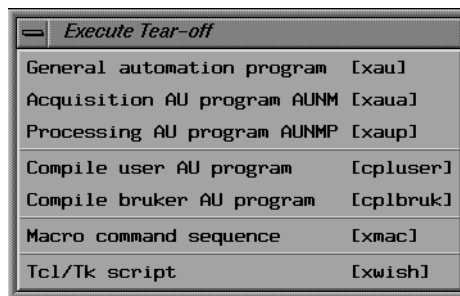

Figure 5.18 The *File->Execute* submenu
The *File->Execute* submenu (Figure 5.18) contains the commands which start automation (AU) programs and command macros. Please refer to the description of the commands edau and edmac and how to set up AU and macro files. There is also a special chapter in this manual which describes the syntax of AU programs in detail.